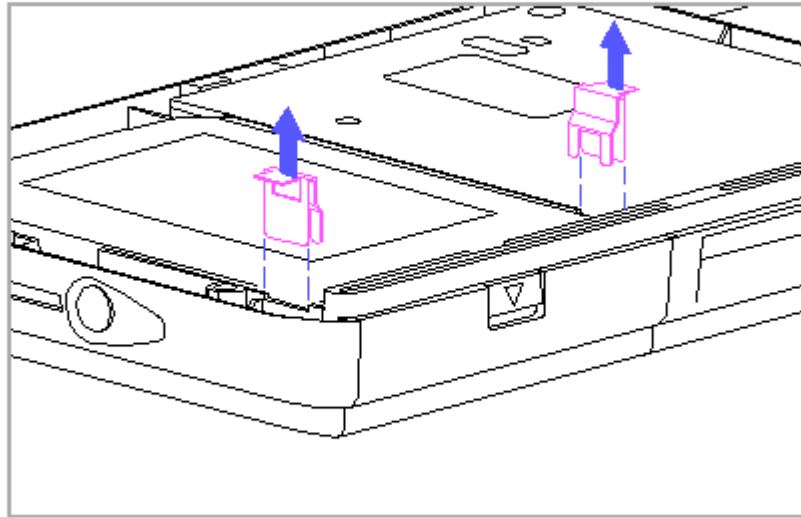

Figure 4-32. Removing the Hard Drive Security Clips
7. Remove the hard drive security clips by gently lifting up on them (Figure 4-32).
IMPORTANT: When replacing the hard drive security clips, position each clip over the notches in the plastic rib near the front of the hard drive enclosure. Insert each clip until the top surface of the clip is flush with the top surface of the plastic rib. If the clips are not flush, the keyboard will not fit properly. Note the orientation of the clips in Figure 4-32.